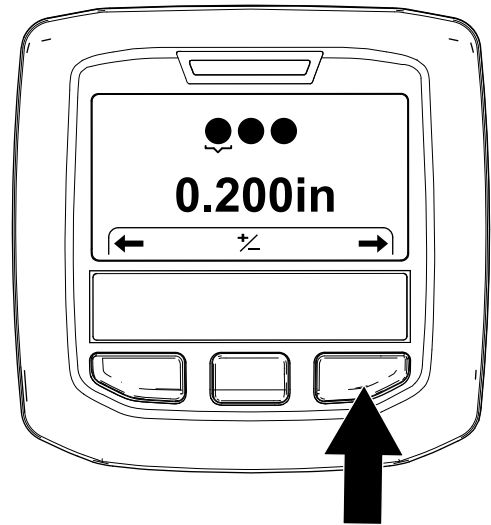

Figure 49
5. Press the right InfoCenter button to display the Setting the Tine Diameter screen (Figure 49).